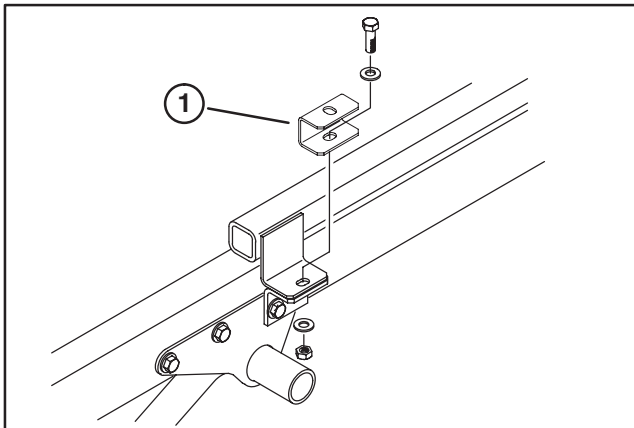

Figure 6
3. Remove the capscrew, (2) flatwashers and locknut securing each attachment bracket to hitch frame tabs (Fig. 6).
4. Secure a spacer mount to top of each hitch frame tab with the capscrew, (2) flatwashers and locknut previously removed (Fig. 6).